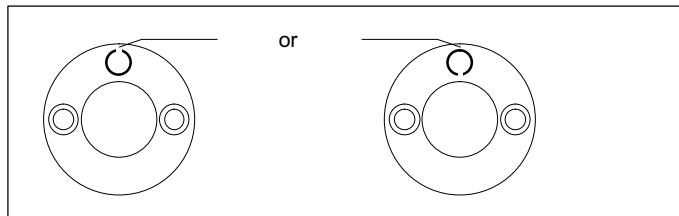

Fig. 6.1 Position of dowel pin relative to rotation stop
- Knock the dowel pin with a hammer into the blind hole of the thrust piece until the pin is seated. Position the open side of the dowel pin radially (Fig. 6.1).